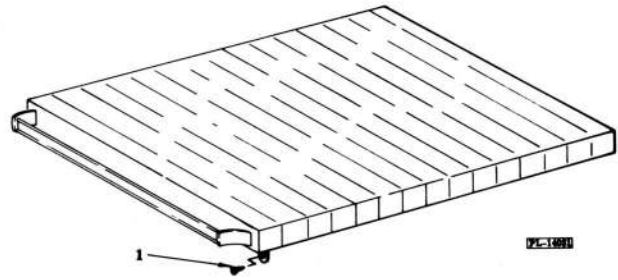

Fig. 49
REMOVAL OF TOP (Fig. 49)
1. Remove retaining screws (1, Fig. 49) from